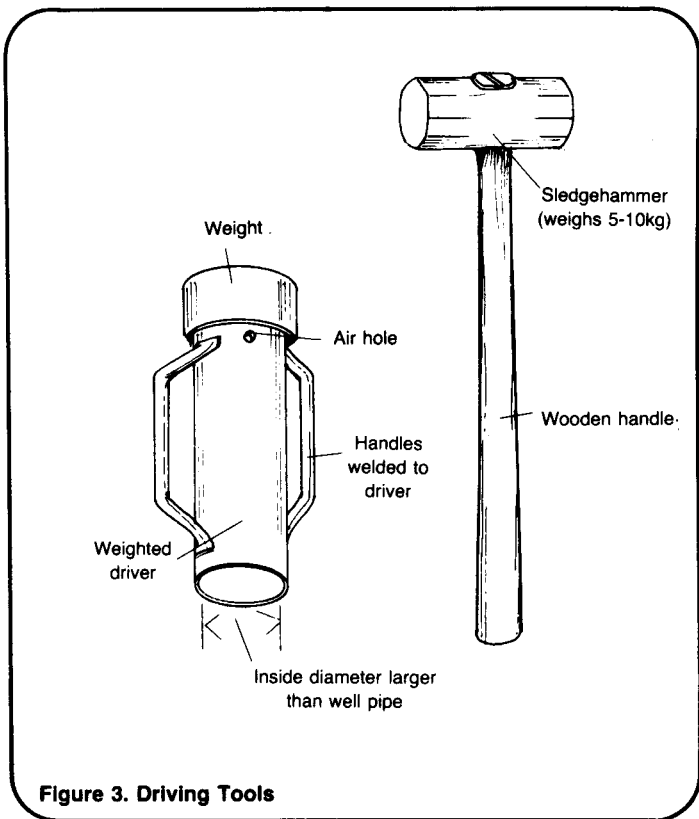

Figure 3. Driving Tools
3. A design drawing of the driving equipment similar to Figures 3, 4, or 5.